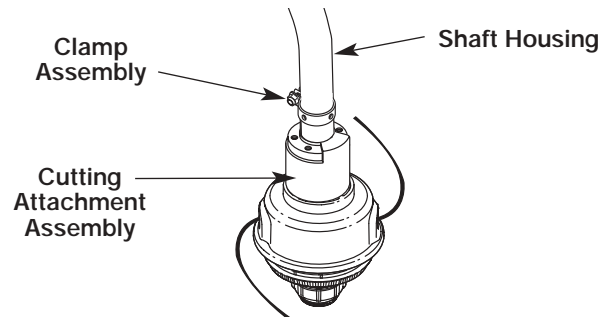

Fig. 8
1. Place the cutting attachment shield onto the shaft housing above the clamp assembly (Fig. 8).